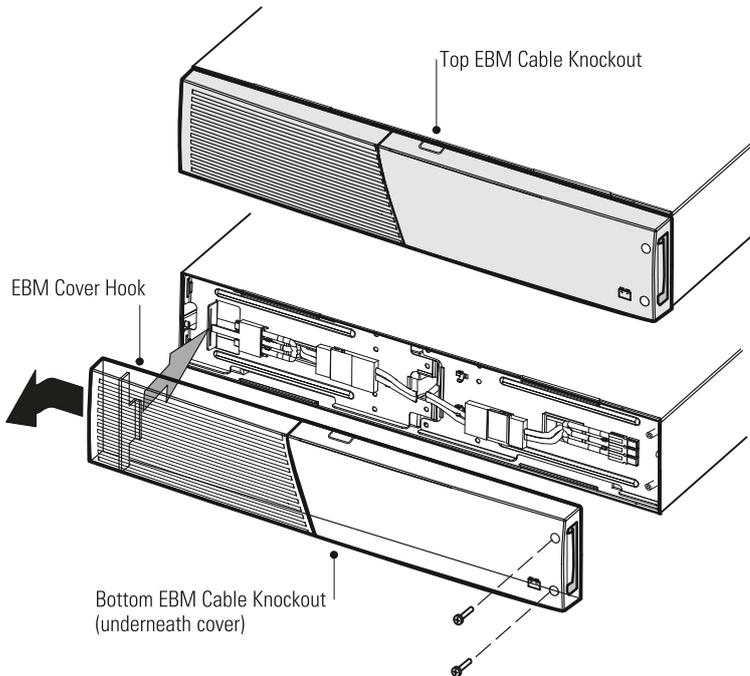

Figure 12. Removing the EBM Front Cover
2. Remove the front cover of each EBM (see Figure 12).
3. For the bottom (or only) EBM, remove the EBM cable knockout on the top of the EBM front cover. See Figure 12 for the location of the top EBM cable knockout.
4. If you are installing more than one EBM, for each additional EBM remove the EBM cable knockout on the top **and** bottom of the EBM front cover. See Figure 12 for the location of the EBM cable knockouts.
To replace the cover, verify that the EBM cables are routed through the EBM cover knockouts, then slide the cover from the left to the right until it connects with the cover hook near the left side of the EBM cabinet. Reinstall the two screws on the right side of the front cover. For reference, see Figure 12 on page 20.